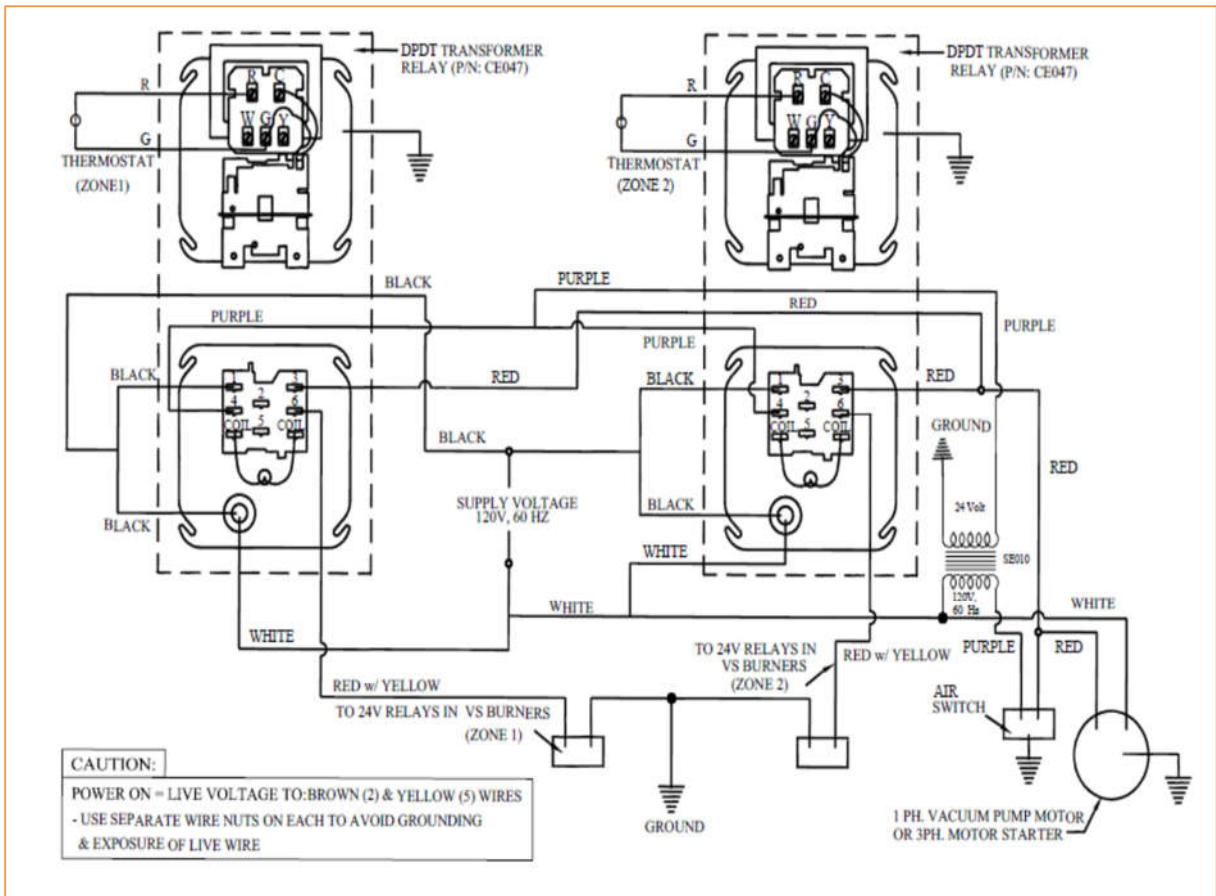

Figure 43: Control Panel Wiring Diagram (Optional)
- a. **Relays (Two)** - 2 Thermostats - Hardwired control of Vacuum Pump and Burner Power depending on individual Thermostat status change (Figure 43).